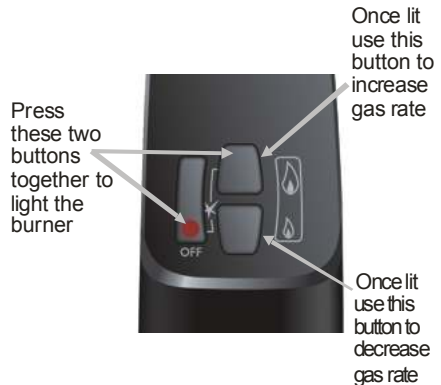

Figure 11 – Total Control Handset
4. To adjust the gas rate to desired setting press the  (large flame) to increase the flame height or  (small flame) to decrease the flame height on the handset (see **Figure 11**).